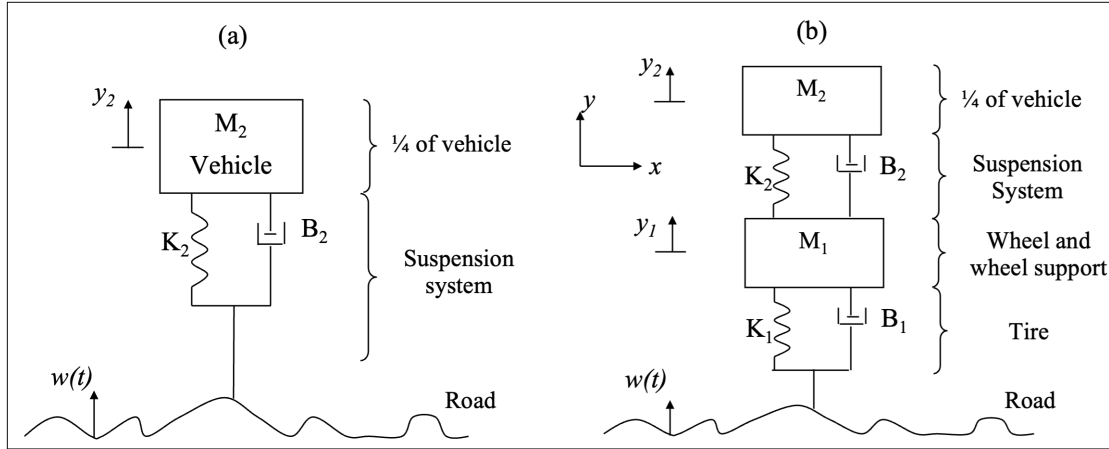

Figure 1: Quarter-car Suspension System
First, in Figure 1 (a), we assume the wheel to be stiffer than the vehicle suspension and its mass to be very small compared to the one of the vehicle. Therefore, the dynamics of the wheel is neglected.
Then, in Figure 1 (b), the mass of the wheel is no longer neglected, and its dynamics are modeled as an additional mass-spring-damper system.
- 4) Observe the evolution of the input, the states, and the system output. Compare the results of both configurations depicted in Figure 1.